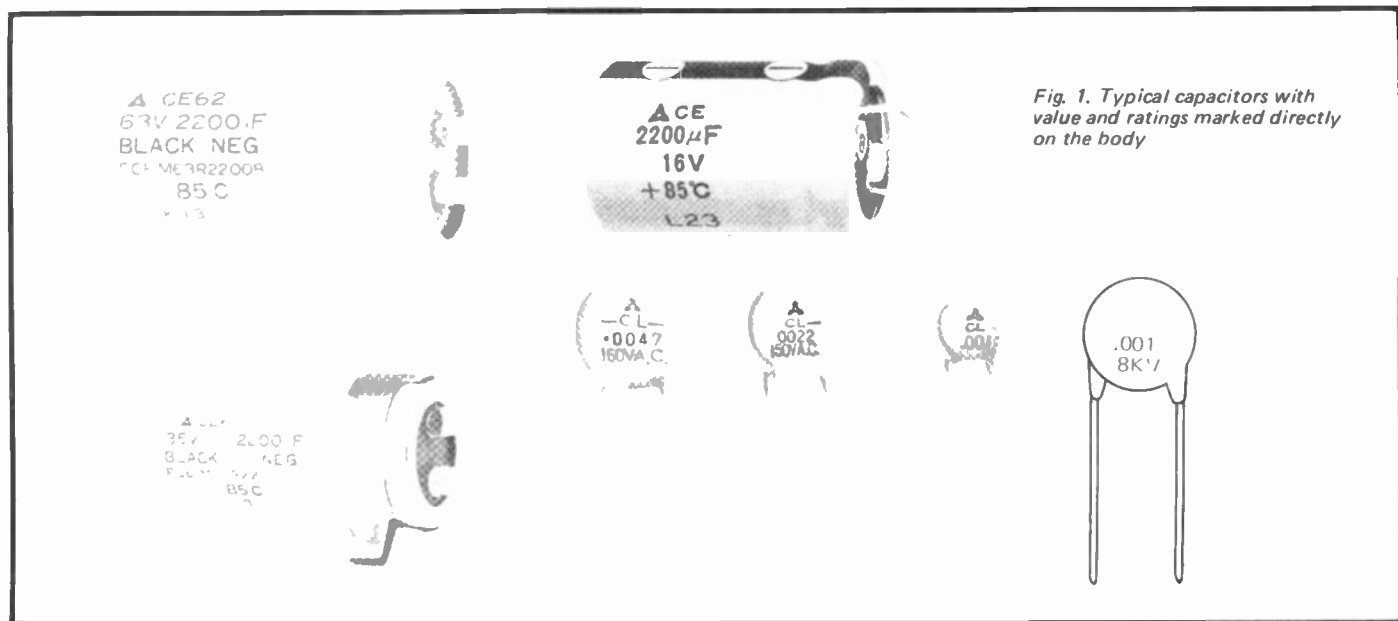

Fig. 1. Typical capacitors with value and ratings marked directly on the body
- (a) The value, tolerance, working voltage and any other characteristic may be stamped or printed on the body of the component. This is usually used on physically large components such as paper capacitors, electrolytics etc. However, it is being increasingly used on smaller capacitors, particularly plastic film types. Figure 1 shows representative markings.